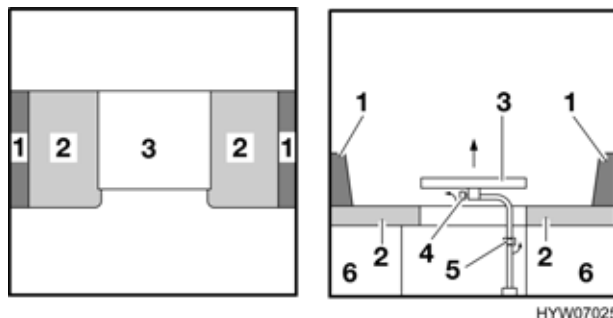

Fig. 96 Prior to conversion
- Loosen the fixing screw (Fig. 96,4) at the bottom of the table and lift the table-top (Fig. 96,3).
- Loosen the fixing screw (Fig. 96,5) for the table leg, pull the table leg upwards and out of the holding device.